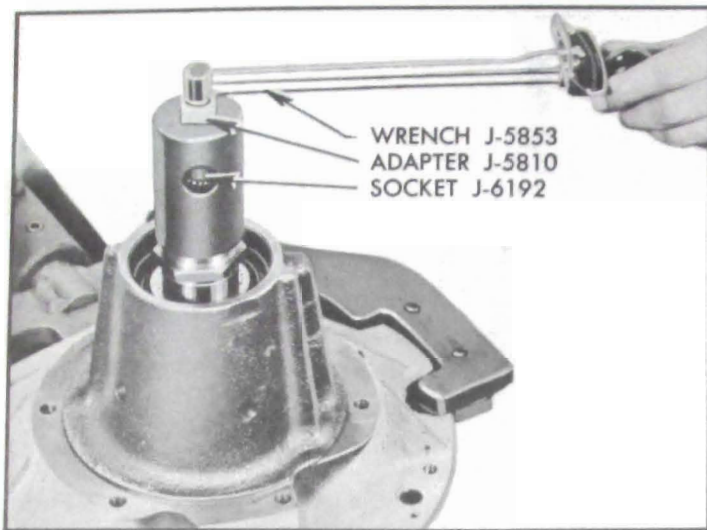

Figure 6-25—Checking Pinion Bearing Pre-Load
5. Rotate pinion three or four times to seat bearings. Turn pinion slowly with an inch pound torque wrench; bearing pre-load should be 10 to 30 inch pounds. See Figure 6-25. If